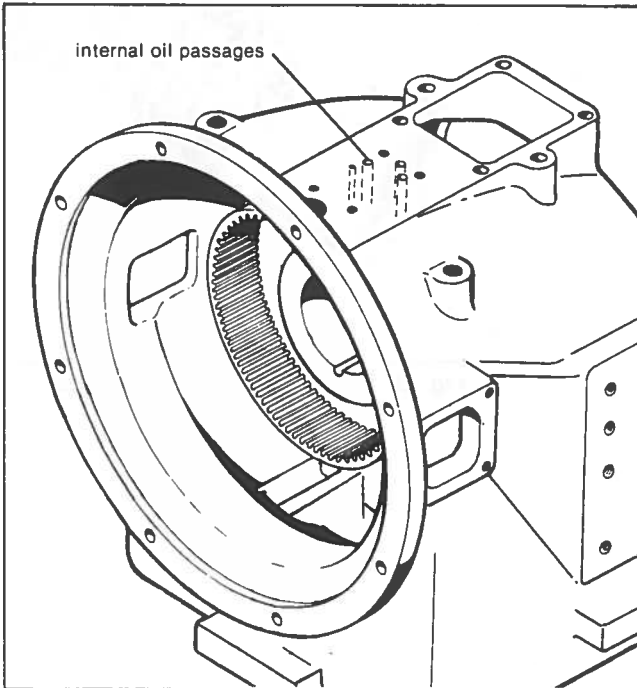

Fig. 30. Internal oil passages
- d. Clean all internal oil passages in selector valve, baseplate and upper part of housing. See fig. 30.